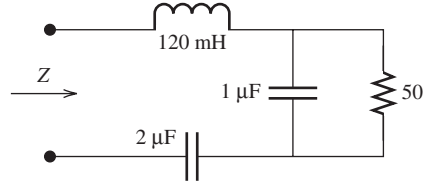

FIGURE P6.24 Circuit for Problem 6.24.
- 6.24** (A)* If $\omega = 250$, find Z in Figure P6.24.